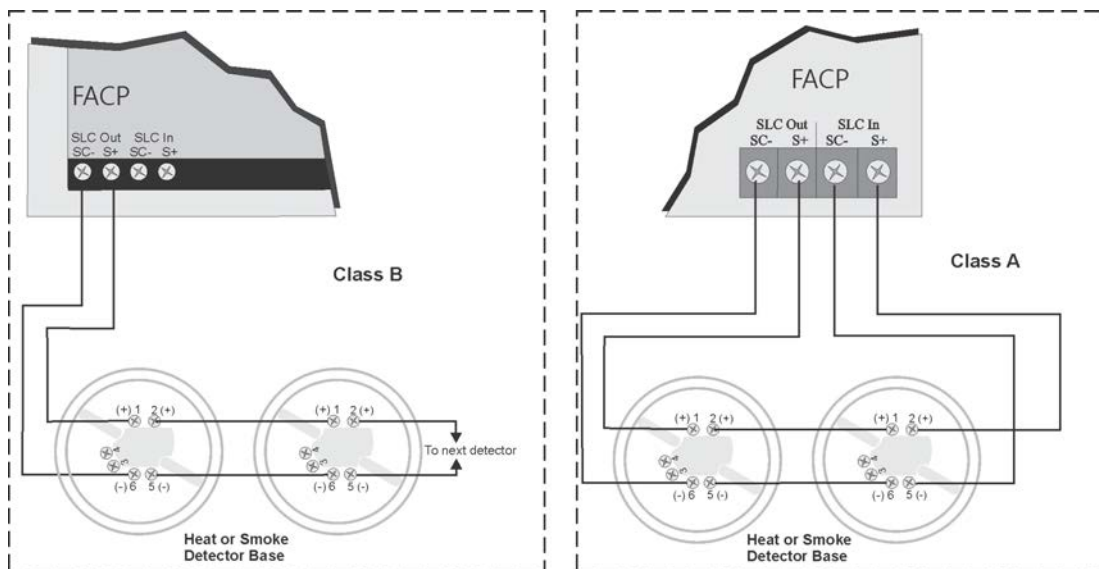

Figure 7.6 Heat or mSmoke Detector Connection to the FACP
1. Wire device bases as shown in Figure 7.6.